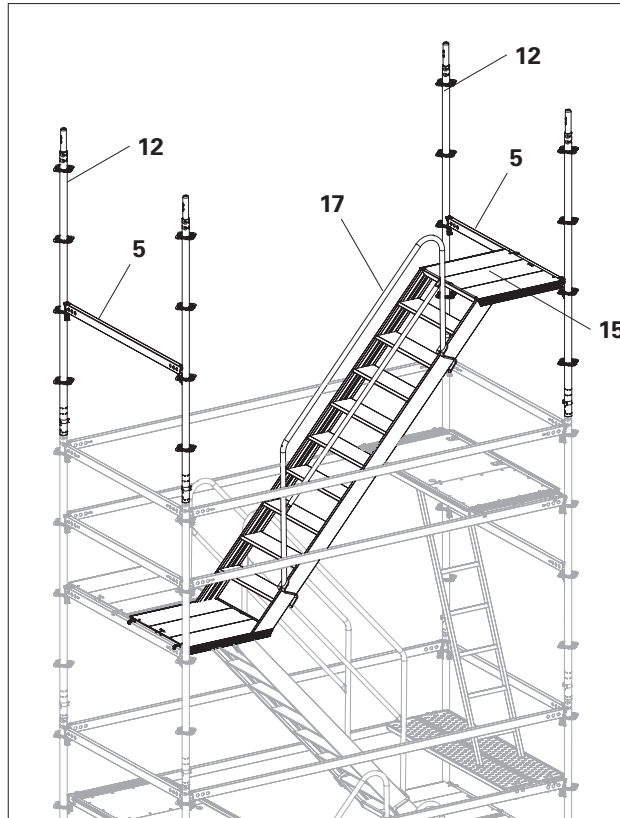

Fig. B5.01
3. Fit a Stair Guardrail UAG (**17**) on the outside of the stair. (Fig. B5.01)